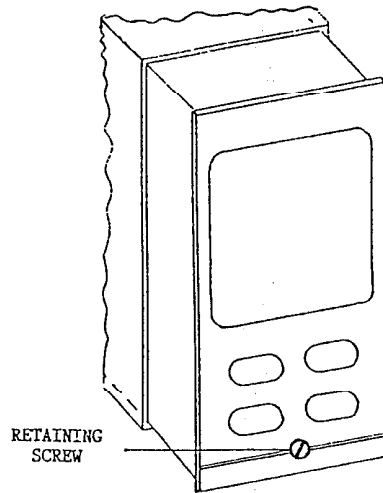

FIGURE 2-4 REMOVAL AND REPLACEMENT OF THE CONTROLLER
1. With a flat-bladed screwdriver of appropriate size (1/4-inch), rotate the retaining screw at the base of the Controller front panel (see Figure 2-4) anticlockwise. This will cause the Controller to be partially withdrawn from its housing and will dis-engage the connector at the rear of the Controller.